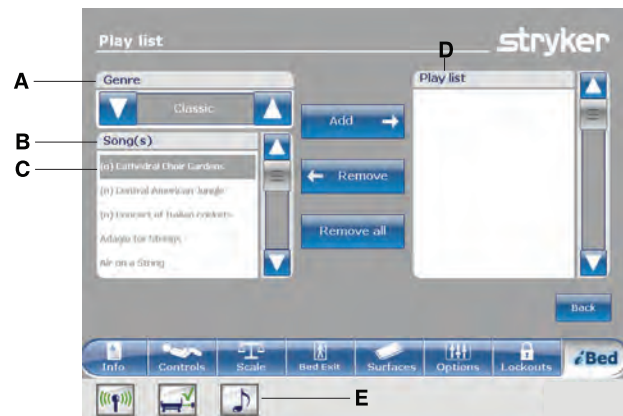

Figure 1-116: Play list
Tap the up and down arrows to select a genre (A) (Figure 1-116 on page 1-100).
Tap the up and down arrows to scroll through the available songs in the **Song(s)** area (B) (Figure 1-116 on page 1-100).
**Note:** The song that is currently selected is highlighted in gray (C) (Figure 1-116 on page 1-100).
Tap **Add** to add a song from the **Song(s)** area (B) to the **Play list** area (D) (Figure 1-116 on page 1-100).
Tap **Remove** to remove a song from the **Play list** area (D) to the **Song(s)** area (B) (Figure 1-116 on page 1-100).
Tap **Remove all** to remove all songs from the **Play list** area (D) to the **Song(s)** area (B) (Figure 1-116 on page 1-100).
**Note:** A music note icon appears at the bottom of the touch screen when music is playing (E) (Figure 1-116 on page 1-100).
To return to the **Sound therapy** screen, tap **Back** (Figure 1-116 on page 1-100).